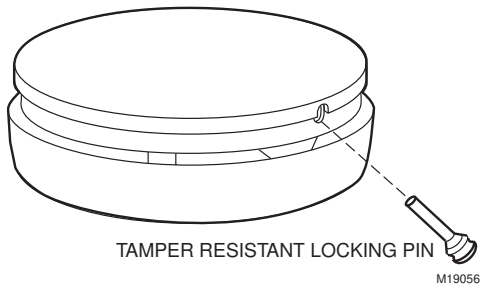

Fig. 7. Inserting tamper-resistant locking pin.
9. To use the tamper-resistant locking pin, insert it into the hole in the side of the alarm after the device is installed on the mounting plate; see Fig. 7.